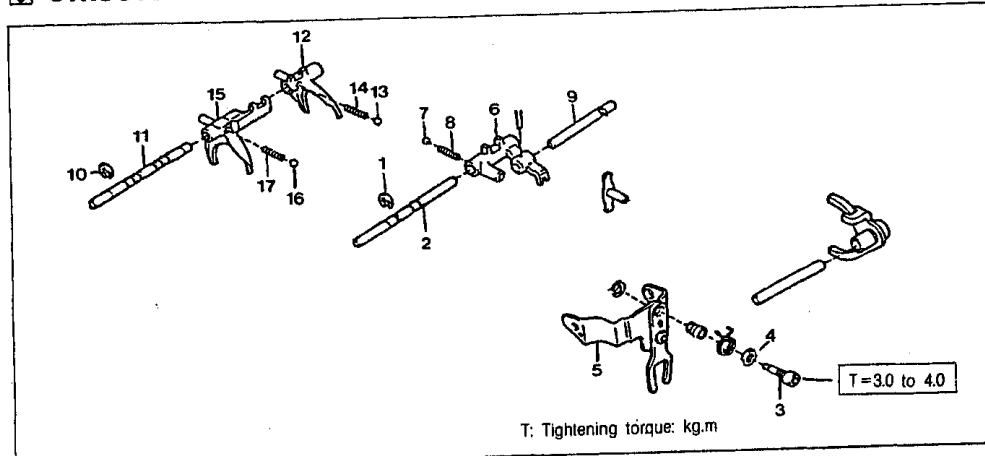

Fig. 7-35
Remove the No. 7 and 8 Fig. 7-35 from the reverse shift fork at the same time.
14. Remove the No. 13 and 14 in Fig. 7-35 from the 1st and 2nd shift fork at the same time.
Remove the No. 16 and 17 in Fig. 7-35 from the 3rd and 4th shift fork at the same time.
Insert and assemble the ① and ② in Fig. 7-35 to the shift fork, using the SST(Special Service Tool).